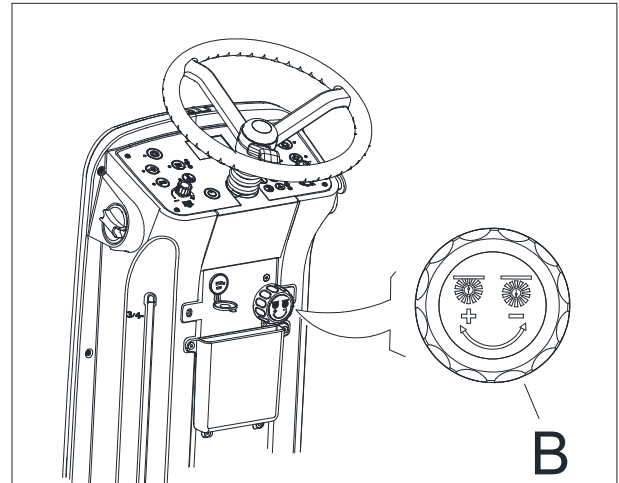

Figure 19
- Rotate the knob (B, Figure 19) as follows: